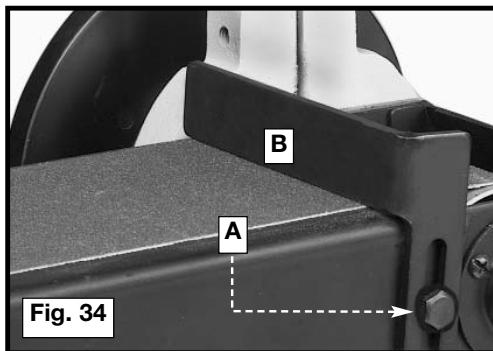

Fig. 34
1. Loosen the screw (A) Fig. 34 and remove the backstop (B).